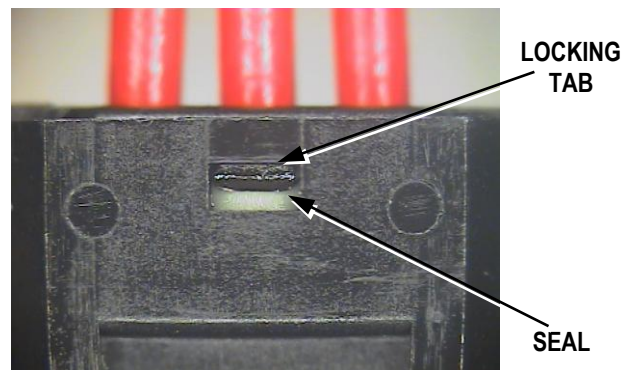

Figure 7
6. Continue squeezing the handles until the cap latches over the locking tabs on both sides of the housing assembly. See Figure 7.